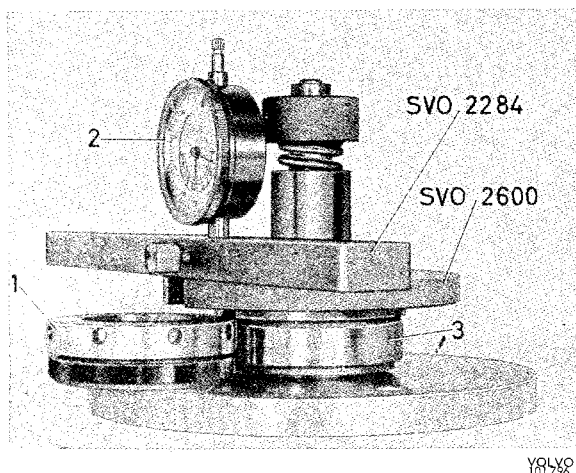

Fig. 4-154. Determination of shim thickness
3. When the correct tooth flank clearance is obtained, remove the differential and adjusting ring. Then place the center washer on the measuring fixture. Install a bearing into the measuring fixture, also the plate, spring and nut. Install the nut with the flat side facing downwards. Rotate the plate forwards and backwards several times. Put on the dial indicator and retainer 2284. Zero-set the indicator to the adjusting ring and then place the measuring point facing the bearing, see Fig. 4-154. Read off the indicator. With a micrometer measure the shims, the total thickness of which corresponds to the read-off value  $+0.07$  mm (0.003"). Place the shims together with the measured bearing to the one side. Repeat the above procedure with the other bearing.